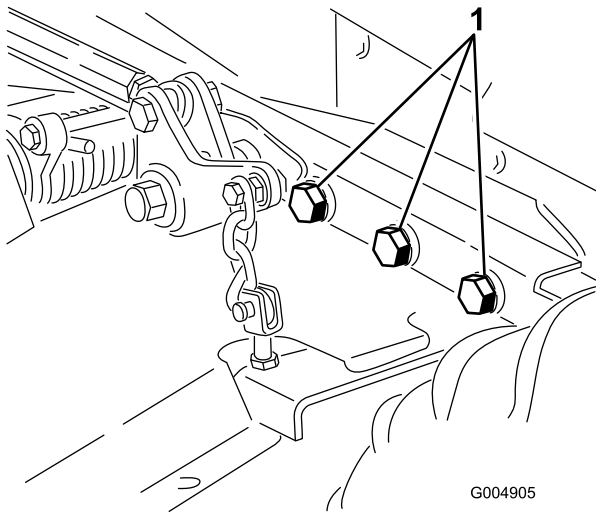

Figure 63
4. Check all fasteners for looseness and tighten them as necessary. Torque the 6 bolts securing the mower deck frame to the traction unit (Figure 63) to 359 N·m (265 ft-lb).